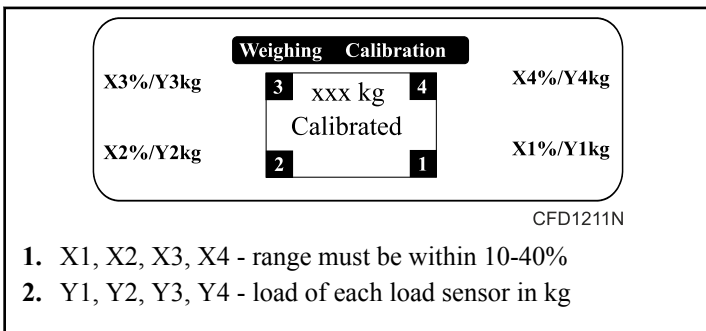

Figure 8
12. Check and, if necessary, adjust the height of the load sensor feet so that an even load distribution among all the load sensors is ensured. Refer to *Figure 8*.